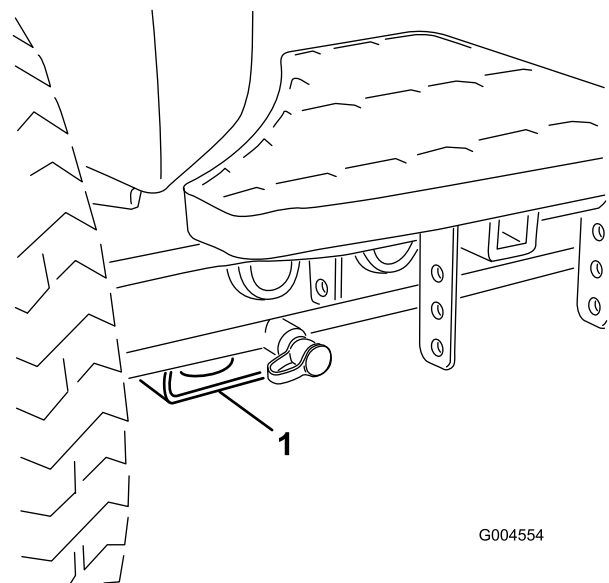

Figure 45
- Front—rectangular pad, under the axle tube, inside each front tire (Figure 45).